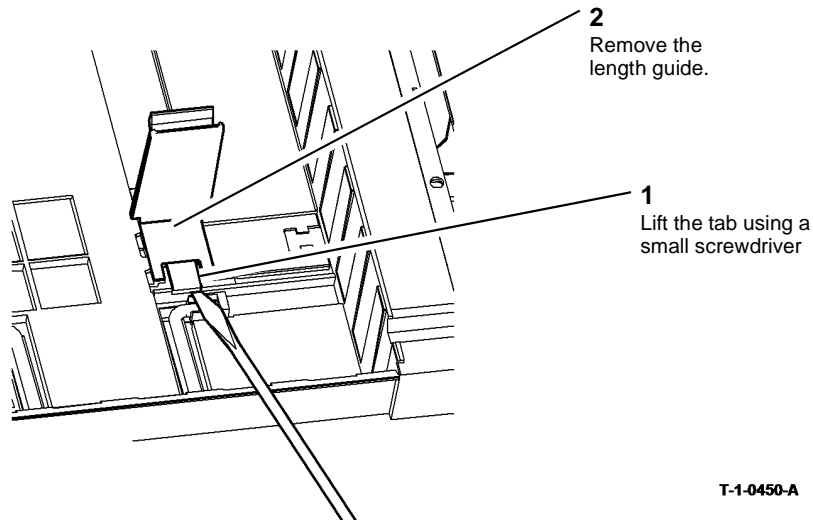

Figure 2 Paper length guide removal
3. Remove the paper length guide, Figure 2.